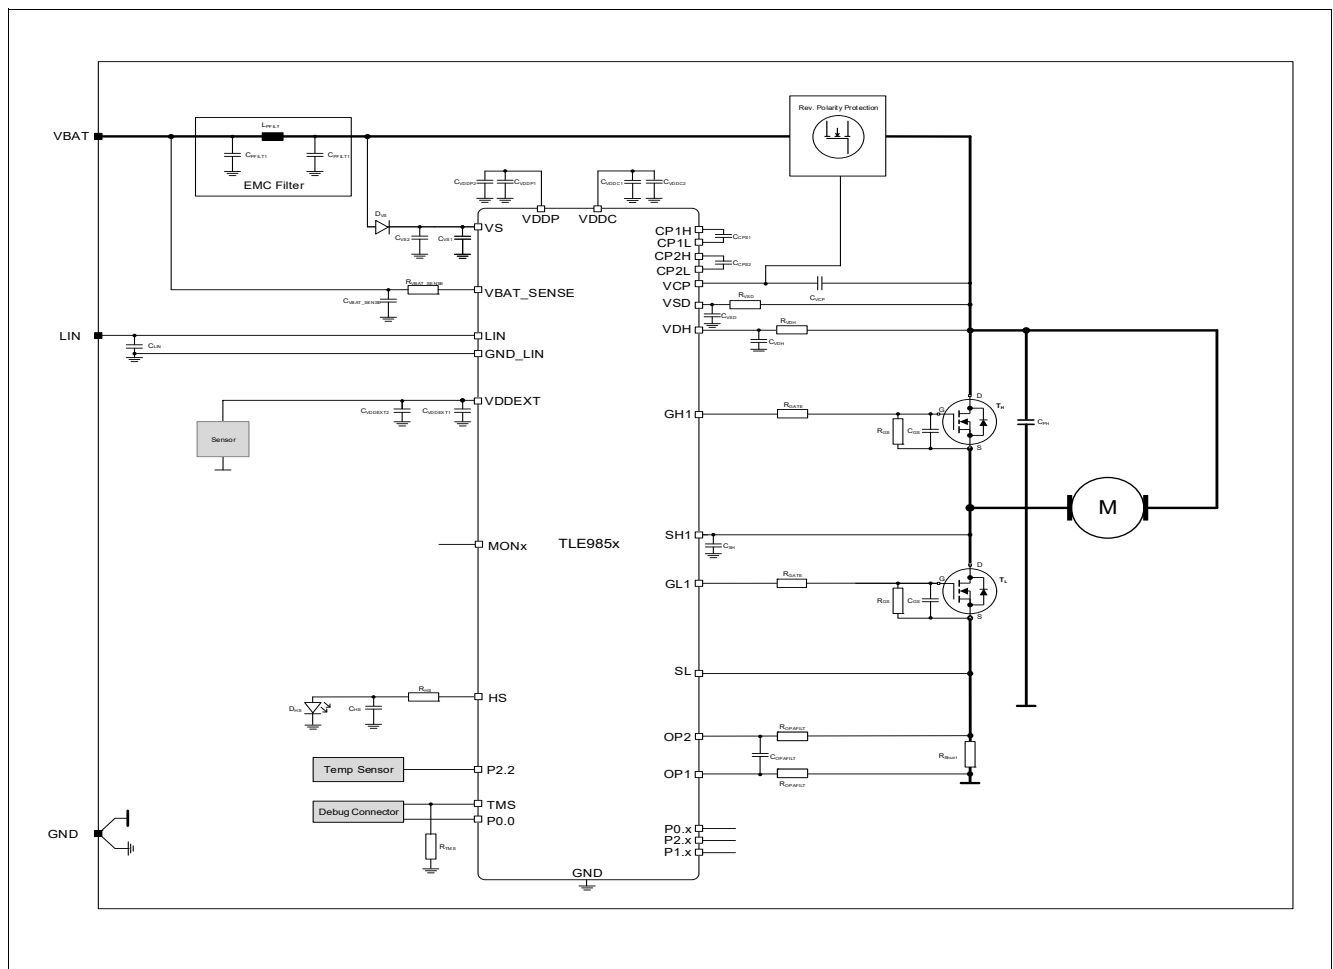

Figure 42 Simplified Application Diagram Example
- 2) With external circuit as shown in Figure 42.